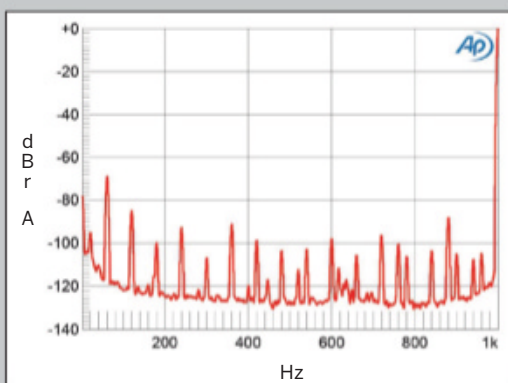

Fig.5 Cary CAD-805RS, 845 tube, 10dB feedback, 8 ohm tap, spectrum of 1kHz sine wave, DC-1kHz, at 1W into 8 ohms (linear frequency scale).
amount of hum; spectral analysis of the low-frequency noise floor (fig.5) showed that a power-supply-related spurious tone at 60Hz lay at -70 dB ref. 1W from the 8 ohm tap into 8 ohms, and though higher-order supply harmonics are present, these are all much lower in level. The unweighted, wideband signal/noise ratio, taken with the 845 tube, the inputs shorted to ground, and no negative feedback,